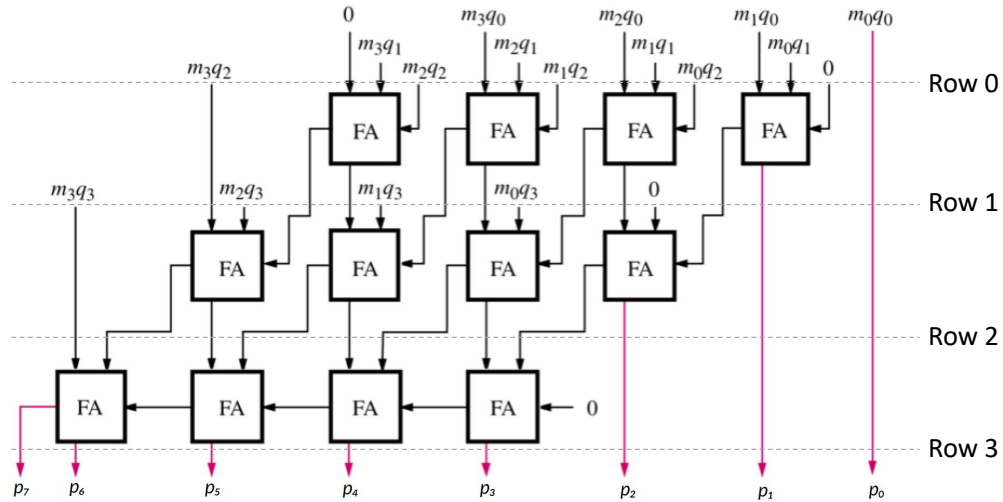

Figure 1: 4-bit Multiplier Carry Save Array 1
Figure 1 shows a  $4 \times 4$  CSM, which multiplies a quotient  $q_0 - q_3$  by the multiplicand  $m_0 - m_3$  to produce the 8-bit result,  $p_0 - p_7$ . The adder inputs/outputs are called ‘partial products (pp)’. Your multiplier must have two 8-bit signals  $x$  and  $y$  as inputs and the 16-bit signal  $out$  as output.
It is recommended that you design your multiplier using two nested **generate for** loops. To help with this, start by thinking of the wires in the schematic as being a 2D ‘array’ of wires. This array has  $2N$ -columns, where  $N$  is the width of the multiplier. For example, in Figure 1, this ‘array’ consists of 8 columns (one
column per final product bit  $p$ ), while your  $8 \times 8$  multiplier would have 16 columns. For the rows, we consider the inputs to each row of full-adder (FA) as well as the final output  $p$  as rows. For Figure 1, this would give us 4 rows (as marked), while for your  $8 \times 8$  multiplier you would have 8 rows. And in each case, you will have 1 fewer number of rows of full-adders (FA), namely 3 rows of FAs for the  $4 \times 4$  and 7 rows of FAs for the  $8 \times 8$  unit.
When writing your code, keep in mind that full adder (FA) cells only exist in some positions of the 2D array. You must write the logic to determine where a FA cell exists and connect the right inputs and outputs to it. Where there is no FA cell, the partial product from above passes directly below. Thus, for  $p[0]$  in Figure 1, each row will have a  $pp$  associated with it, but will simply take the value of the  $pp$  from the row above. For row 0, for example, the final output  $p0 = pp[4][0] = pp[3][0] = pp[2][0] = pp[1][0] = pp[0][0]$ . Hopefully you can see how this can be designed using loops. This is also where setting `pp[0]` to 0 will come in handy. As the logic for each row uses the partial products from the row above, we can use the same logic for the very first row as well, since the row ‘before’ that (i.e.,  $pp[0]$ ) is set to all 0s. Without this, you would need to treat the first row as a special case which would make your loops more complex. This is done to show you that you can declare ‘wires’ such `pp[0]` that do not correspond to any hardware, but are used only to make your code simpler.